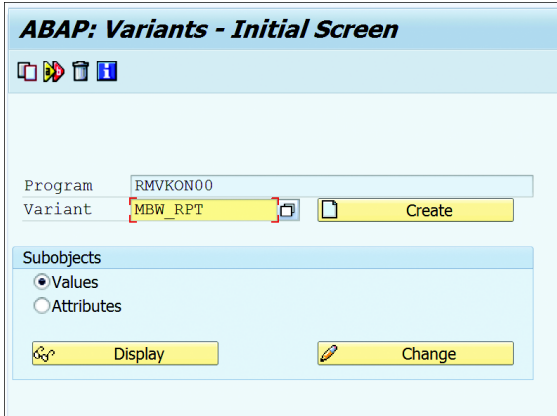

Figure 14.2 Variants Initial Screen
2. On the ABAP: VARIANTS initial screen, enter a name for your variant and select the VALUES radio button under SUBOBJECTS. Click the CREATE button when you've finished (see Figure 14.2).